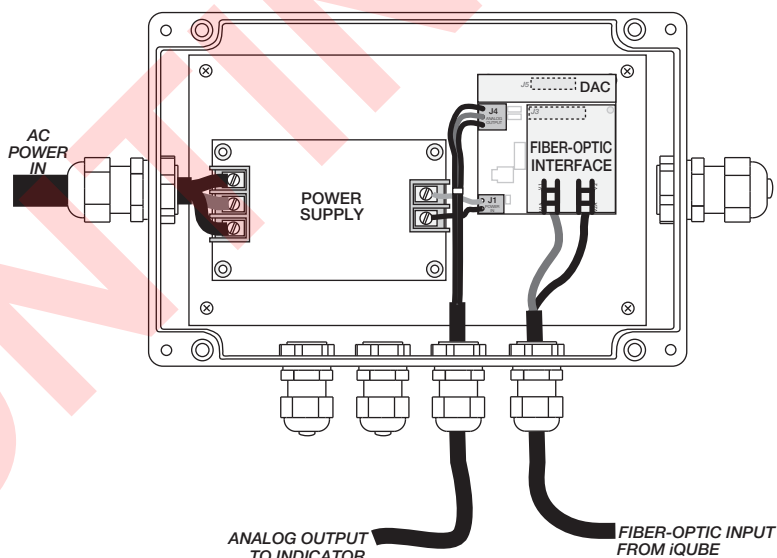

Figure 4. *iQUBE* Remote Fiber-Optic Module
5. Set **Weight value at Zero Output**, **Weight Value for Max Output**, **Averaging Value**, and **Source System** in the **Analog Output section** of Revolution III. See Figure 4.
5. Connect fiber optic cables from *iQUBE* to the black receive (V1 - Detect) and blue transmit (V2) connectors of the fiber optic interface card (see Figure 4). The flashing red fiber optic cable connects to V1 of the interface card.